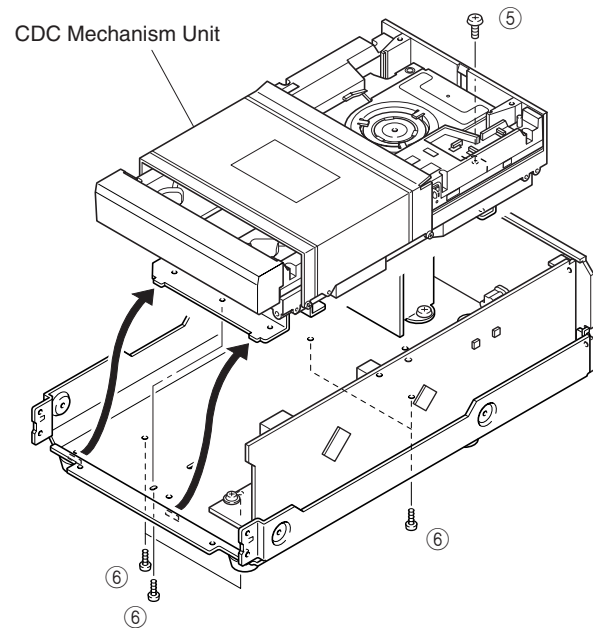

Fig. 3
- a. Remove 1 screw (⑤) and 5 screws (⑥) in Fig. 3 and then remove the CDC Mechanism Unit in Fig. 3.